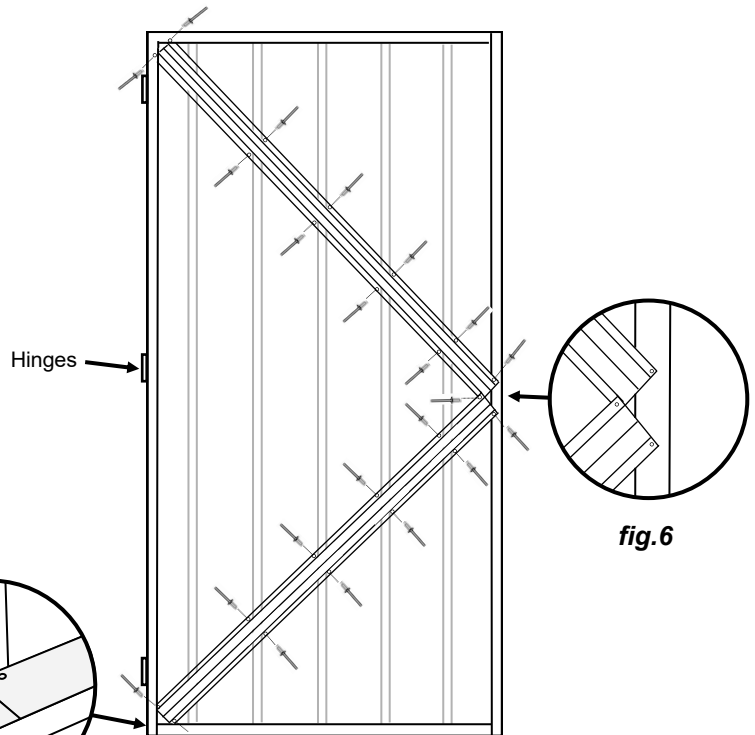

fig.4
- On the back of the door, place door braces in position as shown in **fig.4**.